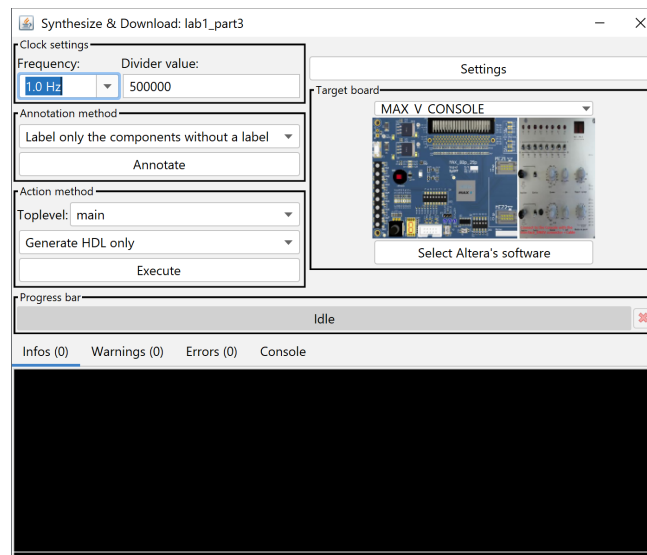

Figure 1.3: The 'Synthesize & Download' window
1. Navigate to **FPGA > Synthesize & Download**. A small window should open (Figure 1.3).
10. In the **Action method** panel (Figure 1.3), select the appropriate Toplevel circuit (typically **main**). From the pull-down menu, make sure that **Synthesize & Download** (not **Generate HDL only**) is selected.